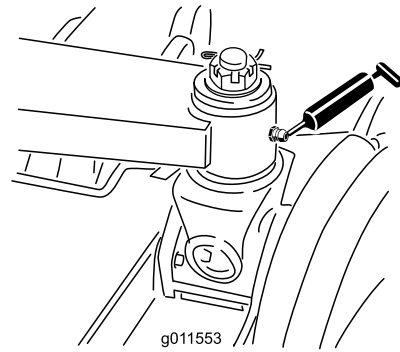
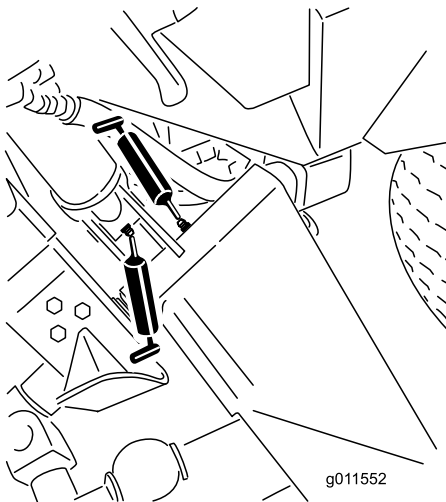

Figure 43
Figure 42
- 6 main lift-arm bushings (Figure 42 and Figure 43)